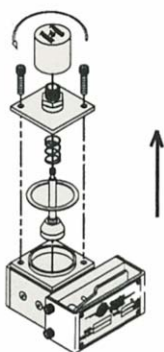

Figure 5
Note: Prior to installation for pressurized application, the Pig Detector needs to be disassembled, referring to Figures 5, 6, 7 and Component Diagram on Page 4.
2. Remove the two screws allowing removal of Lid (Figure 5).